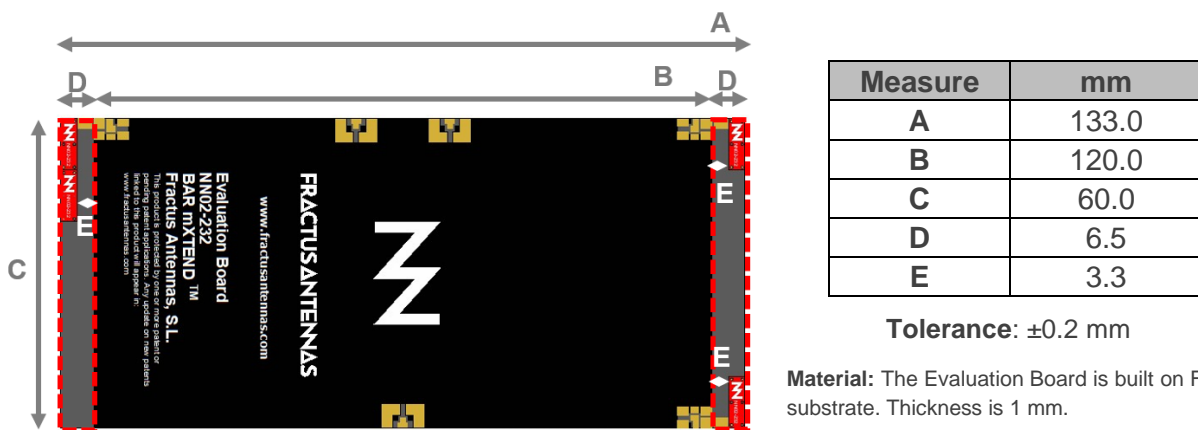
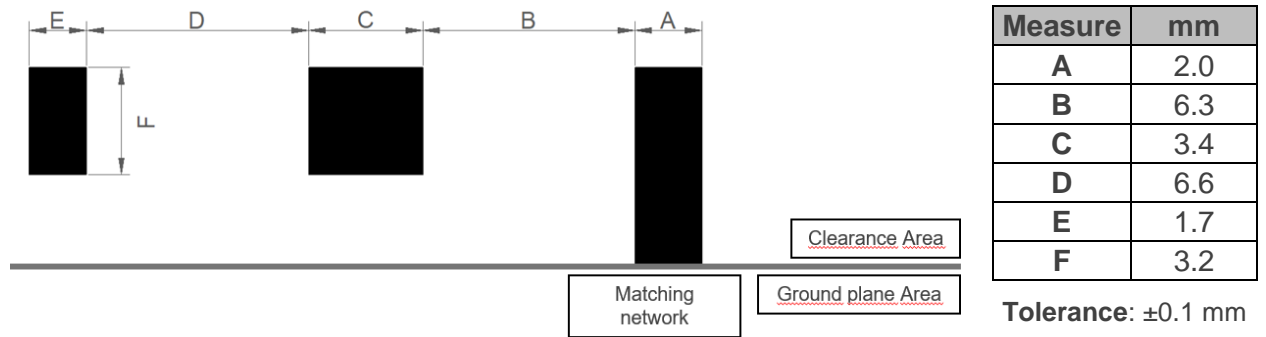

Figure 1 – EB_NN02-232-UFL3R. Evaluation Board providing operation in 3 frequency ranges, 698 MHz to 798 MHz, 824 MHz to 960 MHz, and 1710 MHz to 2690 MHz.
Figure 5 – Footprint dimensions for the double booster.
Table 1 – Technical features. Measures from the Evaluation Board. See Figure 1. Note that for obtaining comparable results, a ground plane length larger than 100 mm is recommended.
- Note that in this case the Evaluation Board (Figure 1) integrates two BAR mXTEND™ antenna boosters that are placed together to provide operation at LTE700 (698 – 798 MHz). Please see Figure 5 for the recommended footprint.
Figure 3 – VSWR and Total Efficiency for the 698 – 798 MHz range, for the 824 – 960 MHz range, and for the 1710 – 2690 MHz range from the Evaluation Board 3 ports (Figure 1).
Figure 4 – Transmission coefficient for the 698-798 MHz range (LTE), for 824 – 960 MHz range (LFR), and for the 1710 – 2690 MHz range (HFR) (from the Evaluation Board 3 ports) (Figure 1).
Table 2 – Antenna Gain and Total Efficiency from the Evaluation Board (Figure 1) within the 698 – 798 MHz range. Measures made in the Satimo STARGATE 32 anechoic chamber.
Table 3 – Antenna Gain and Total Efficiency from the Evaluation Board (Figure 1) within then 824 – 960 MHz range. Measures made in the Satimo STARGATE 32 anechoic chamber.
Table 4 – Antenna Gain and Total Efficiency from the Evaluation Board (Figure 1) within the 1710 – 2690 MHz range. Measures made in the Satimo STARGATE 32 anechoic chamber.